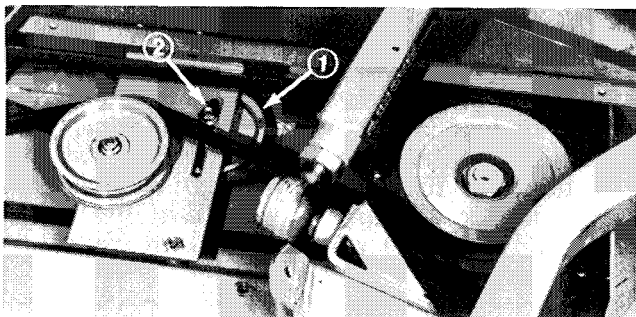

Figure 24
4. Mount a belt on lower pulley groove of left spindle, slide belt under belt idler mount plate and install around center spindle pulley. Tension belt by levering idler pulley against belt and tighten idler pulley flange nut (Fig. 24).